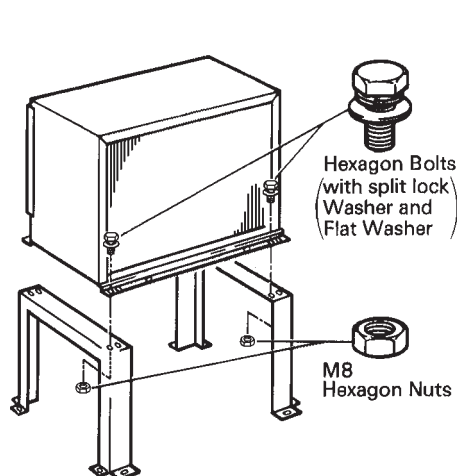

Fig. 6
- 1) Secure the legs to the condenser unit with eight M8 × 16mm hexagon bolts and M8 nuts as shown in the illustration. See Fig. 6.